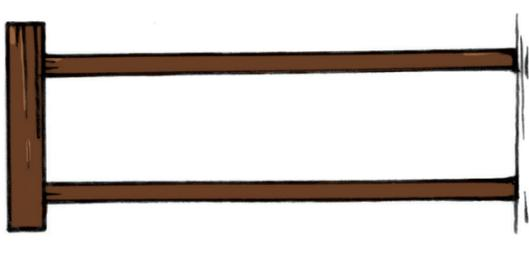

Figure 25
6. A design for a small table is shown in Figure 25.